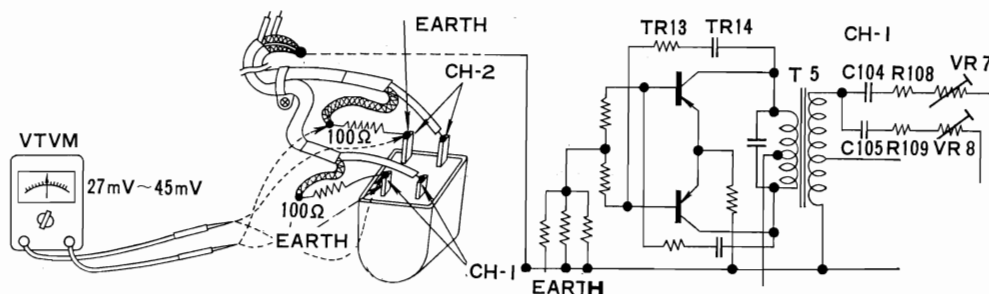

Fig. 20
- Measure the voltage after connecting V.T.V.M. (vacuum tube voltmeter) as shown in Fig.20, and